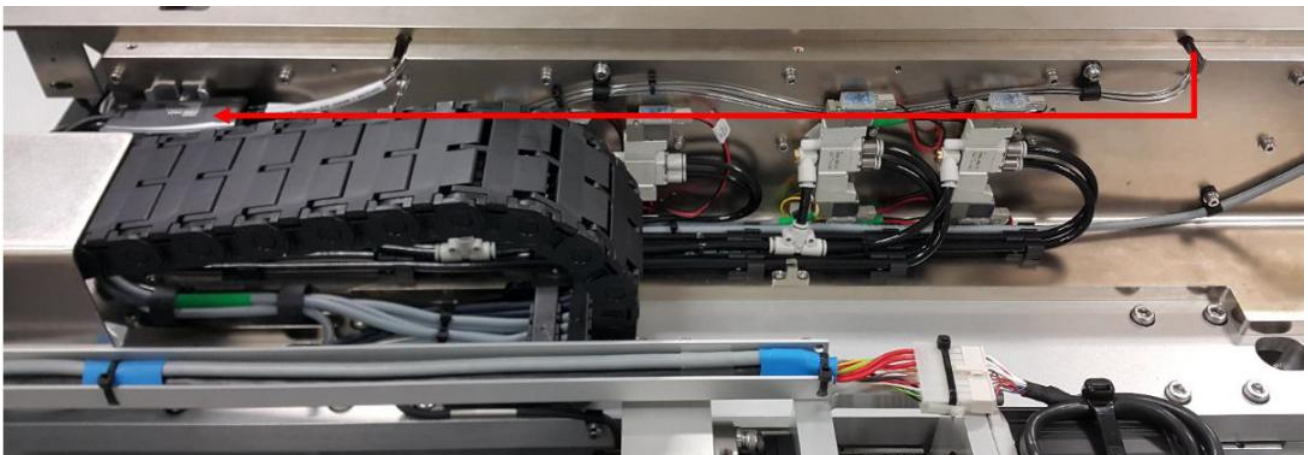

Figure 43 Sensor 3 Receiver Cable Routing
8. Route Sensor 3 Receiver by refer Figure 43 to Figure 47